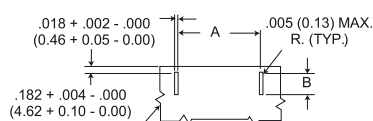

Figure 4
3. Figure 4 is for edge board mounting bracket or edgeboard clip assembly. The .184 + .002 (2.67 + .05) dimension locates the MD socket insulator flush with the end of the board.